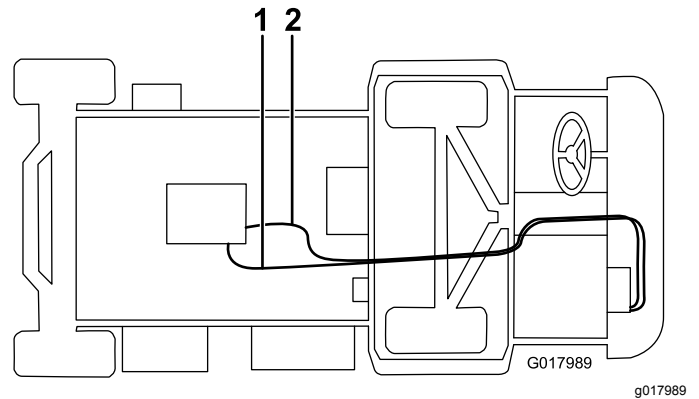

Figure 18
5. Connect the long hose to the heater valve with a hose clamp, and route it under the machine, over the axle, and to the straight fitting (Figure 18). Cut any excess hose to fit.
6. Connect the shorter hose to the white fill tee with a hose clamp, route it through the R-clamp on the heater bracket, and connect it to the tee fitting in the lower radiator hose with a hose clamp (Figure 18). Cut any excess hose to fit.